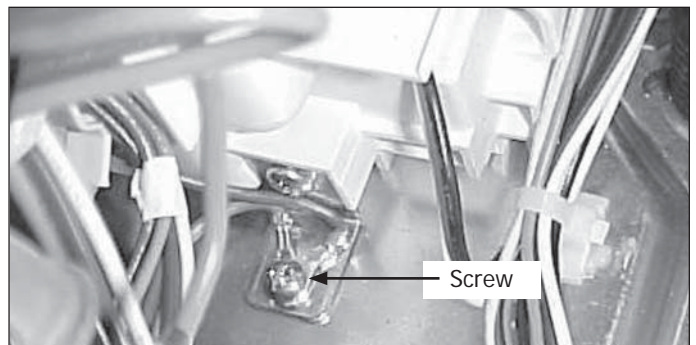

Figure 4-91.
3. Disconnect the wire harness and remove the screw securing the tab on the side of the control board to the base. Lift the side of the housing up, slide the assembly to the rear to disengage the front tab and lift the assembly away from the washer base. (See Figure 4-91)